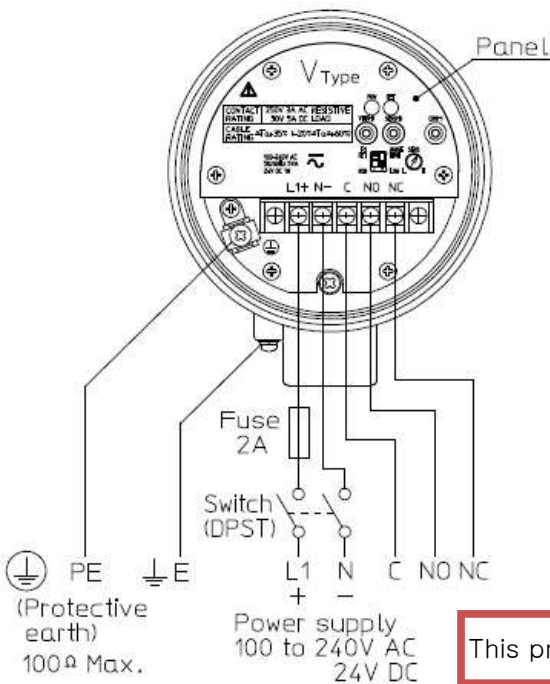

Fig. 6-3
(3) Always provide a power switch and a fuse close to the product. Connect the fuse to L1+ (Live) line (Fig.6-3). Indicate these components are used for the product.
(2) Figure 6-3 shows wiring diagrams. Use a suitable tool when wiring. Terminal screws are of M3.5. Use cable lug of R1.25-3.5 or equivalent size. The screws of protective earth (PE) and the external earth terminal on the housing are of M4. Use cable lugs of R1.25-4 or equivalent size.